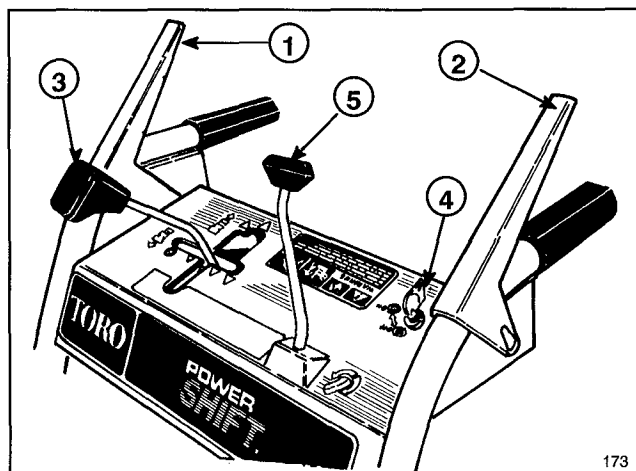

Figure 13
Auger/Impeller Control (Fig. 13)—Control has two positions: ENGAGE and DISENGAGE. To engage both auger and impeller, compress lever against right handle grip. To disengage, release lever.
Traction Drive Control (Fig. 13)—To engage traction (wheel drive) or activate power shift system, lever must be compressed against left handle grip. To stop traction, release lever.
Speed Shift Control (Fig. 13)—The control has a neutral position, four speeds forward and two reverse and also controls power shifting of wheels. To select speeds, move shift control to desired position.
Auger Lock-Up (Fig. 13)—When auger/impeller control and traction drive control are both compressed, the traction control locks the auger/impeller control down. Releasing the traction control releases the auger/impeller control.
Discharge Chute Control (Fig. 13)—Rotate discharge chute control clockwise to move discharge chute to the right and counterclockwise to move chute to the left.
Ignition Switch (Fig. 13)—Switch has two positions: ON and OFF. Rotate key to ON position before starting engine. To stop engine, rotate key to OFF.
Recoil Starter (Fig. 13)—Recoil starter is on back side of engine. Pull recoil starter to start engine.
1. Move speed shift control to N (neutral) and throttle to FAST (Fig. 13).
5. Rotate ignition key to ON (Fig. 13).
1. Release traction and auger/impeller drive controls (Fig. 13).